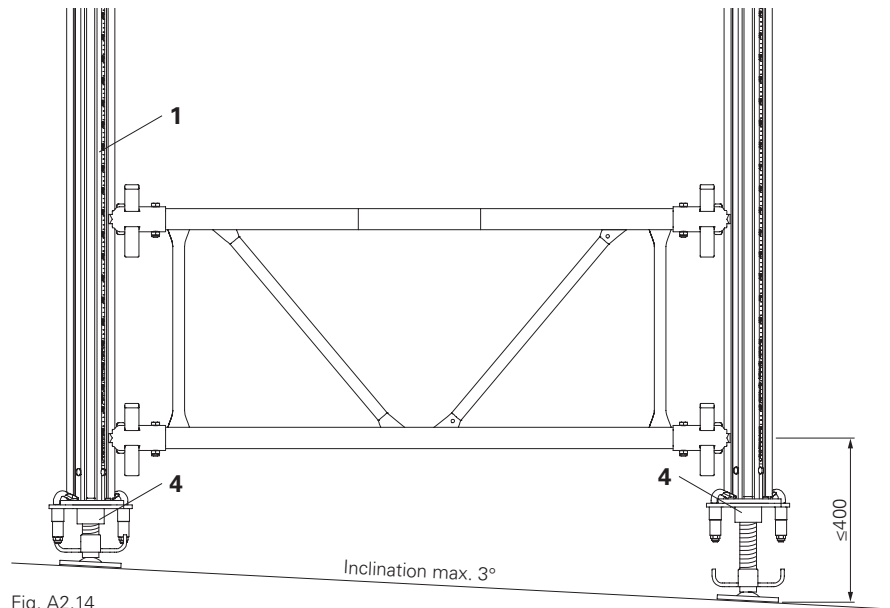

Fig. A2.14
The Tilting Base MP MKF (4) with quick-action clamp coupling can be pivoted on all sides by up to 3°. This means that MULTIPROP MP (1) can be positioned on inclined surfaces. (Fig. A2.14)